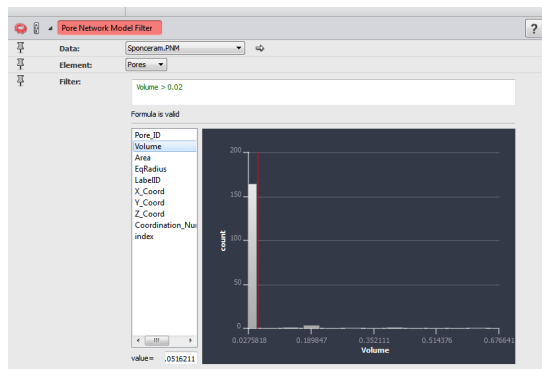

Figure 22.22: Parameters of the Pore Network Model Filter Module
7. Filter the data to keep only pores with volume greater than 0.02. Create a *Pore Network Model Filter* module on the generated PNM and then add *Volume* > 0.02 in the Filter port. You can visualize the filtered network by changing the Data port of the Pore Network Model View and setting it to the new network (see Figures 22.22 and 22.23).